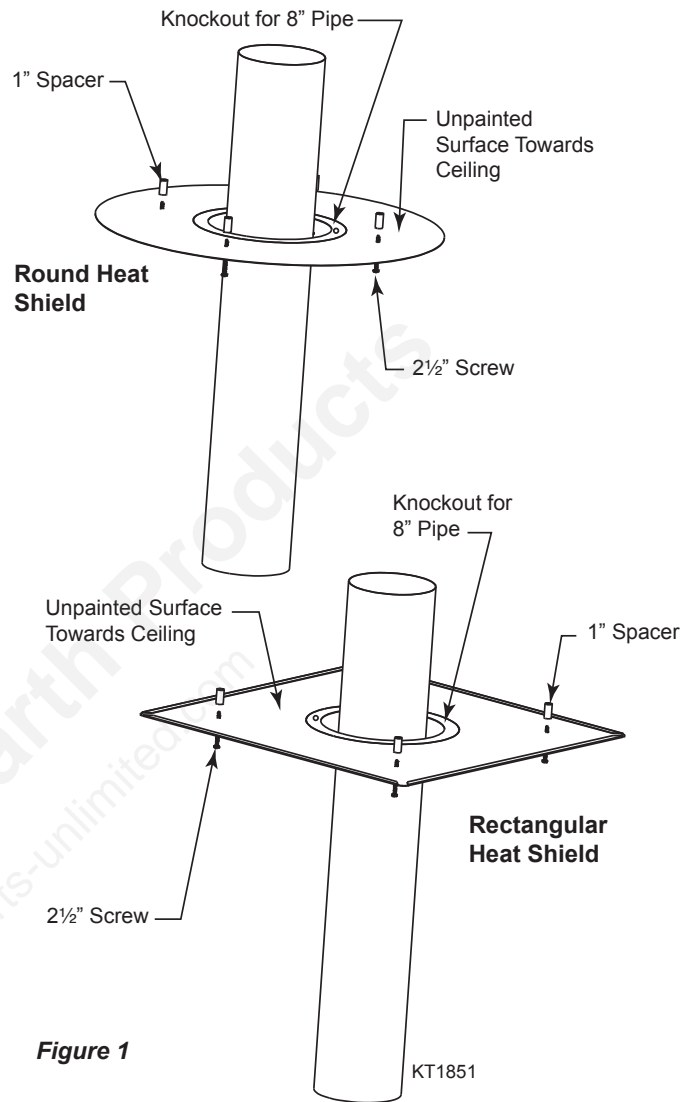

Figure 1
Before beginning the final connection of the stovepipe, place the heat shield over the pipe with the unpainted surface toward the ceiling. Slide the heat shield up to the ceiling placing one (1) 1" spacer between the ceiling and the screw hole in the heat shield. Install a screw through the spacer into the ceiling. Repeat for the remaining holes and spacers. *Figure 1*